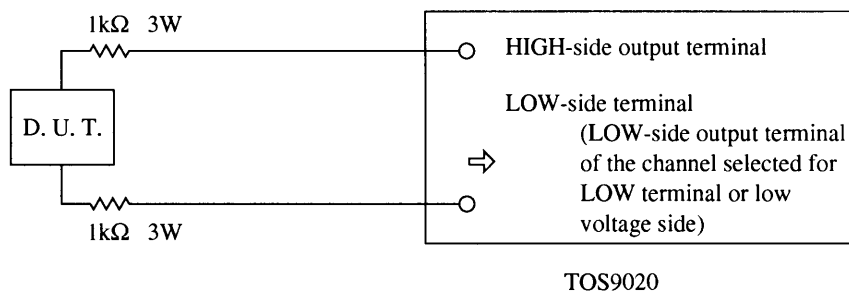

Figure 3.7
- If the high voltage output is shorted to the LOW terminal (or other object which is connected to the LOW terminal), noise which may cause interference to nearby electronic systems may be produced. To reduce the noise, connect the resistors ($1\text{k}\Omega$, 3W , Impulse Dielectric Withstanding Voltage: 30kV), at positions as close to the D.U.T. as possible, between the high-voltage-side cable and the D.U.T. and between the low-voltage-side cable and the D.U.T. as shown in Figure 3.7. When the resistors are connected as above, due to the voltage drops across the resistors, the voltage at the D.U.T. will be slightly lower than the voltage at the output terminal. For example, if the output current is 10mA , the voltage at the D.U.T. will be lower by approximately 20V than that at the output terminal)